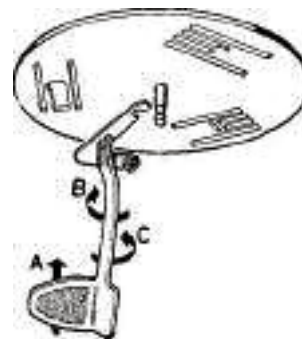

Fig. 6
Bring the needle up to its highest position by turning the balance Wheel toward you. Move slide plate to extreme left. *h)* Tilt the machine back on its hinges, so that the underside is in Full view. *c)* Rotate the needle plate release lever (Fig. 6) in the direction of Arrow "C" until the center stud in the needle plate becomes free, Then remove the needle plate.
*Note:* To fasten the needle plate after having placed it in its receptacle, push the lever shown in Fig. 6 in the direction of the arrow "A " and, at the same time, rotate it in the direction of the arrow " B " .